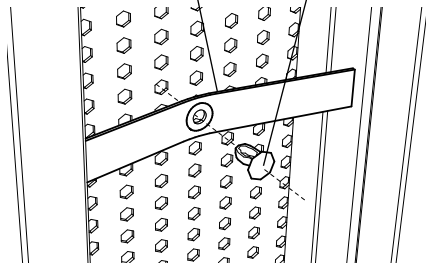
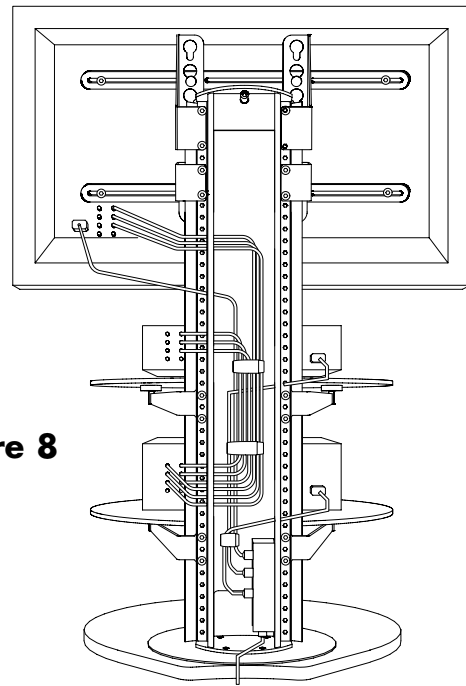

Figure 7
Figure 8
9. Install Wire Management Straps. Wire management straps (Q) attach to the perforated metal panel inside the Vista spine simply by pushing the plastic pin (R) into the hole in the center of the strap and into one of the holes on the panel (Fig. 7). Wrap straps around cords as shown (Fig. 8). Straps may be relocated simply by pulling out and pushing plastic pin into another hole.